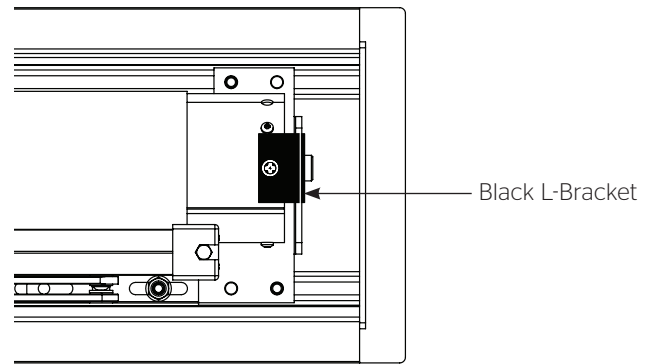

Figure 18
6. Remove black L-bracket on pin end of roller (Figure 18).